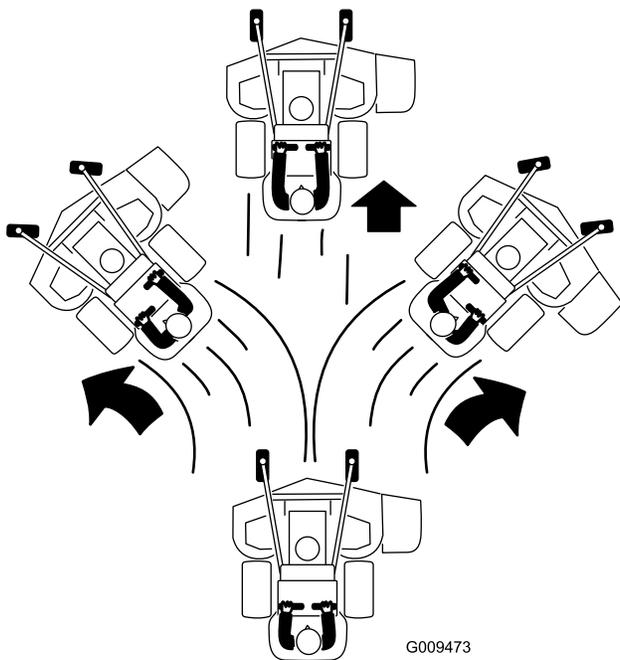

Figure 22
3. Slowly push the motion control levers forward (Figure 22).